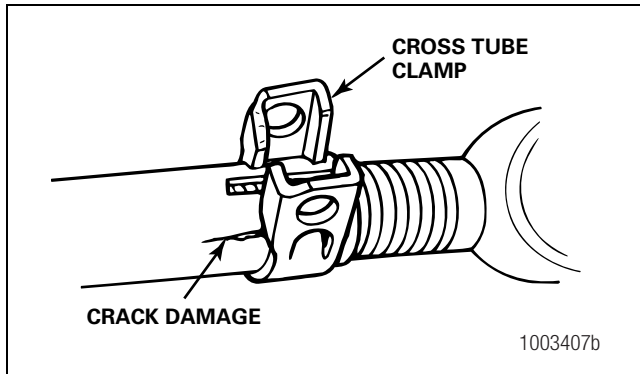

Figure 5.14
12. Inspect the cross tube and clamps for damage. Figure 5.14.